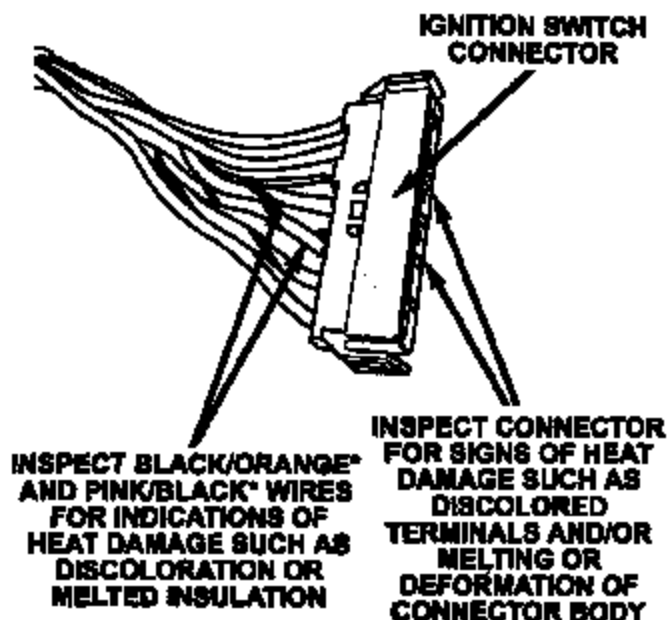

Figure 5
6. Disconnect the 7-way ignition switch electrical connector (Figure 5).
7. Inspect the 7-way ignition switch connector for heat damage near the 4th and 5th terminals (BLACK with ORANGE tracer and PINK with BLACK tracer wires) (Figure 5).